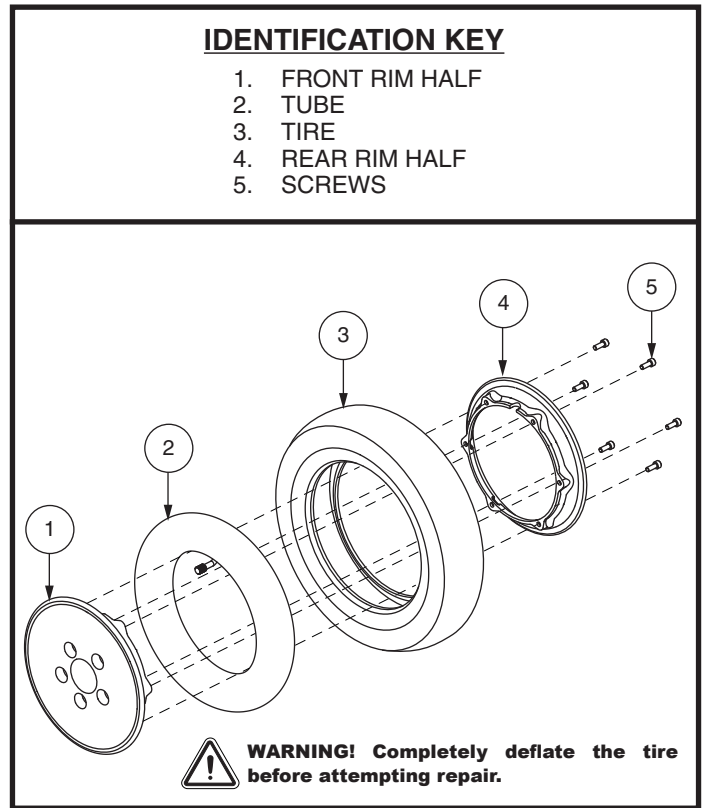

Figure 28. Pneumatic Drive Wheel Disassembly/Assembly
6. Remove the screws and separate the rim halves. **See figure 28.**